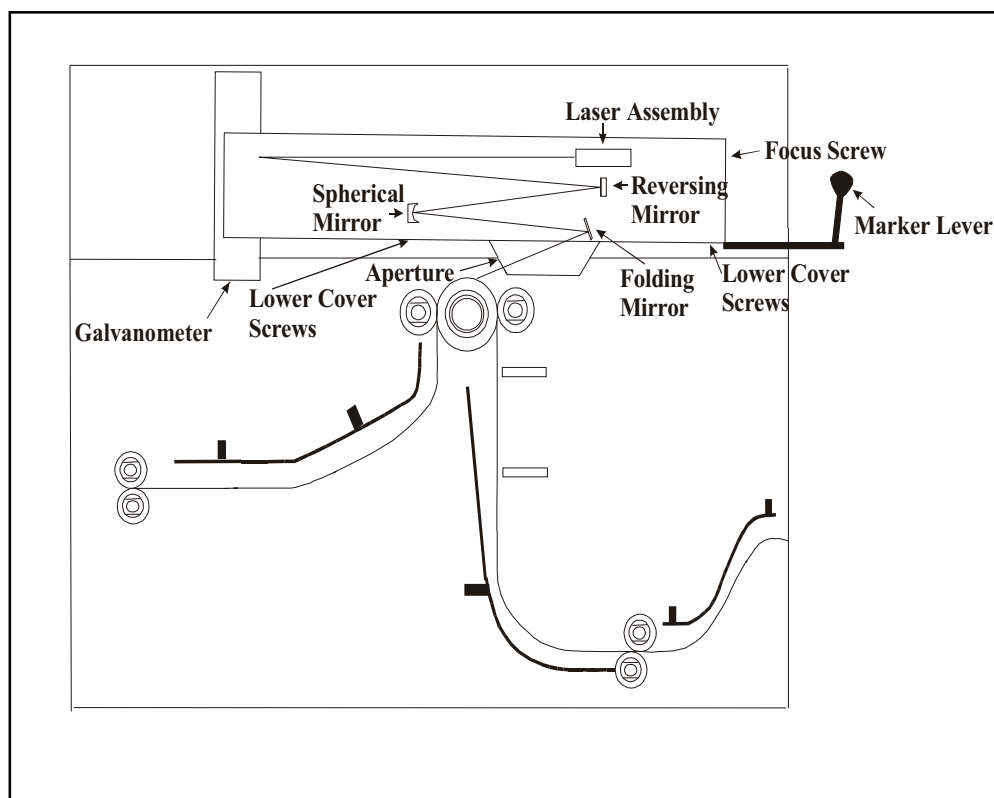

Figure S2-1 Side View of the Marker
Open the top cover and raise the marker by pulling marker lever towards the front of the Platesetter until lever stops. Lift up marker gently. Lower marker by gently lowering the marker and lock by pushing marker lever towards the rear of the Platesetter until lever is horizontal. (See Figure S2-1)
Turn off the Platesetter. Open the top cover and raise the marker assembly. Inspect the folding mirror through the marker assembly cover aperture using a flashlight. See Figure S2-1. Examine the mirror for dust.
On the marker lower cover are two seals which read “Warranty Void If Seal Broken.” Refer to Figure S2-1.
Open the top cover and raise the marker. Remove the marker lower cover by unscrewing the 4 Allen head screws with flat washers located underneath the marker. Refer to Figure S2-1. This will break the “warranty void” seals.
Inspect the surfaces of the galvanometer window, the reversing mirror, the spherical mirror and the folding mirror. Refer to Figure S2-1.
3. Open the top imager's top cover and adjust the marker focus screw using a 7/32" allen wrench. Turn the focus screw 3 full turns clockwise (see Figure S2-1). Close the top cover. Run another "4 pixel on focus" test plate.